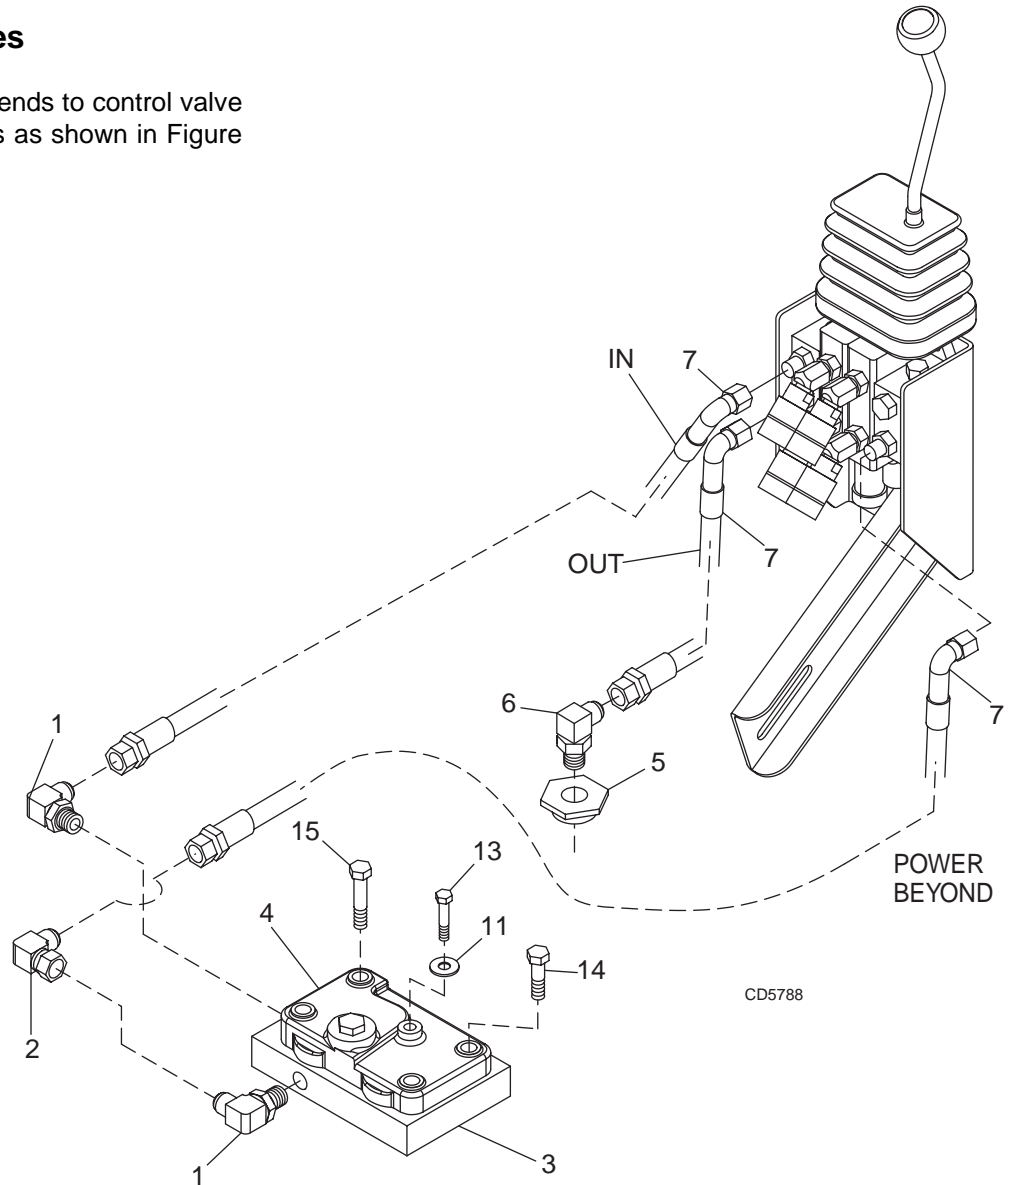

Figure 14 #1001420 Hose Kit Assembly
6. Secure with hex head cap screws and flat washer as shown in Figure 14.